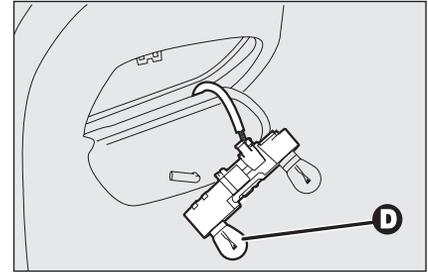

fig. 35
- remove and replace the burnt-out bulb by pressing it slightly and turning it counterclockwise **fig. 35**: